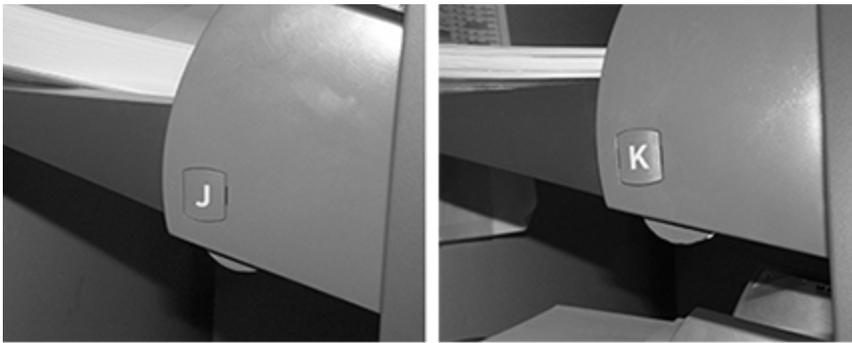

Figure 23 Feeder Badges (J Bottom, K Top)
19. Snap the feeder identification badges in place. If a single HCSF is installed, the top feeder is “K” and the bottom is “J”. Refer to Figure 23. If the installation requires a second HCSF, the top feeder is “M” and the bottom is “L”.